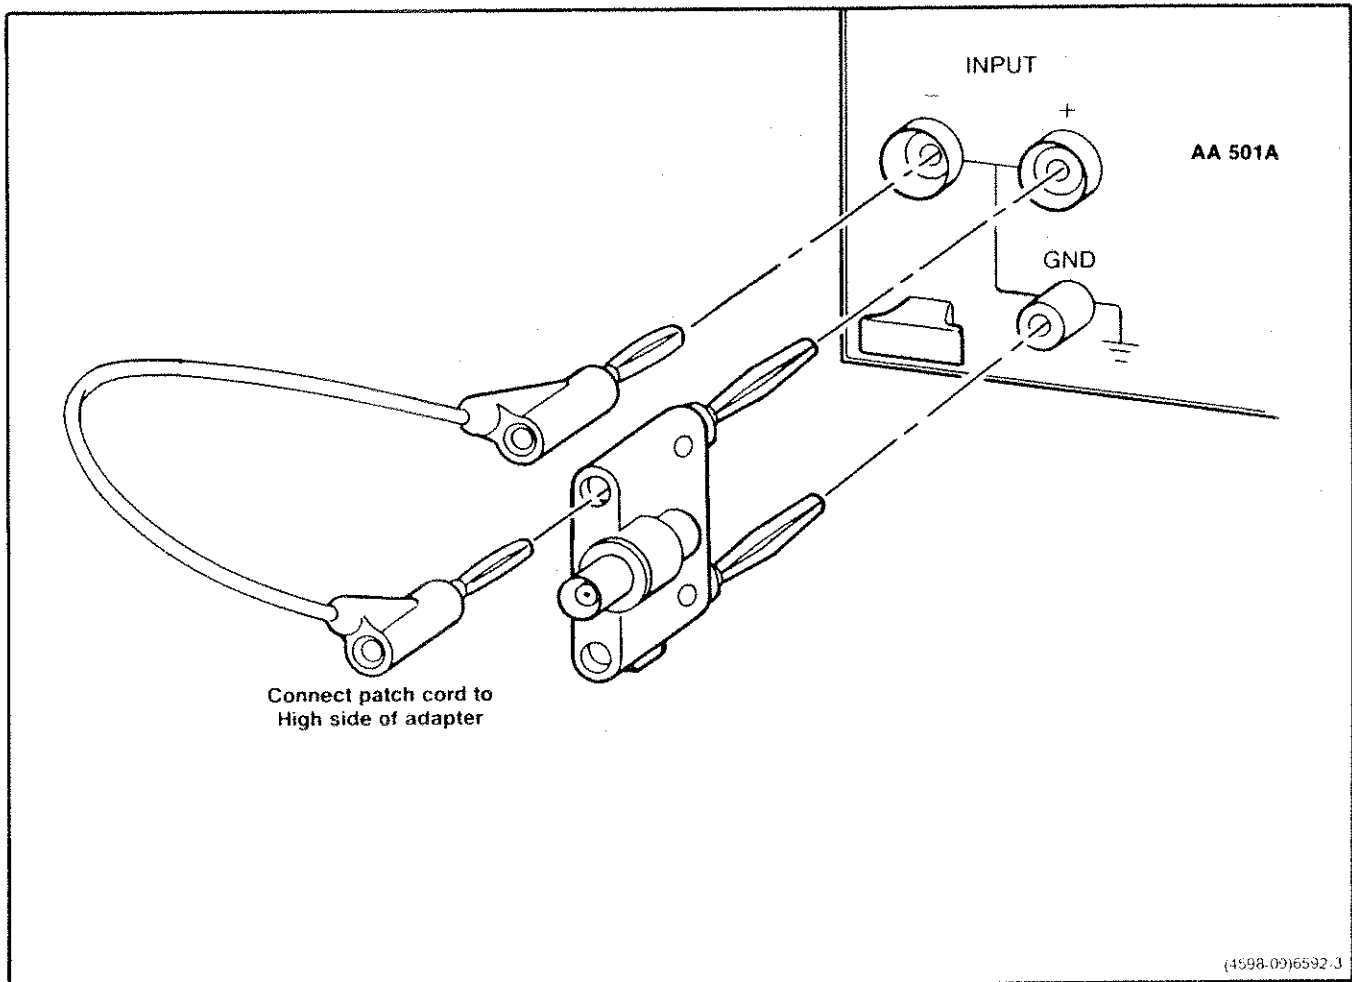

Fig. 4-2. AA 501A common mode input connection.
- a. Connect the ac calibrator to the input terminal of the AA 501A as shown in Fig. 4-2.